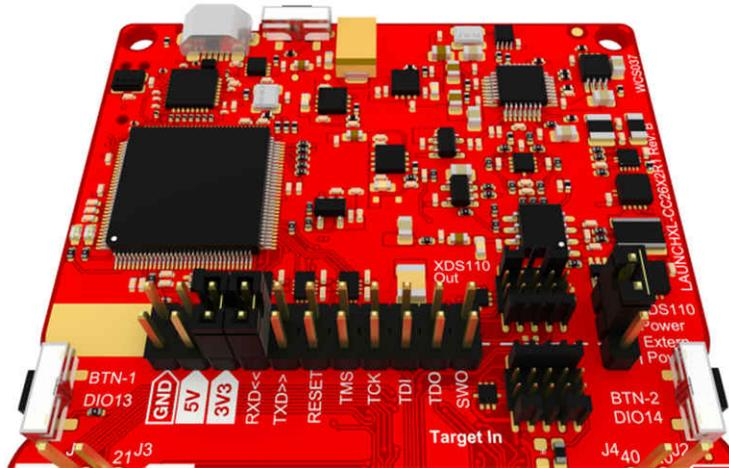

Figure 7-2. Jumper Settings
1. Remove all jumpers on the LaunchPad between the XDS debugger and the device, except for the XDS110 Power, the 3V3 and RXD jumpers (see Figure 7-2). It is important that the XDS110 jumper is mounted in the "XDS110 Power" position when the LaunchPad is powered up, otherwise the calibration of EnergyTrace will fail. The UART driver in the SDK configures the UART RX pin without internal pull-up. To avoid current leakage in the input buffer, the pin must always be firmly pulled to a logic level. This can be achieved by keeping the RXD jumper on (connecting the debugger output to the UART RXD input).